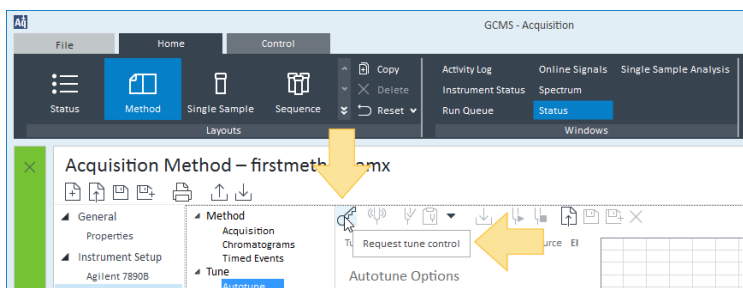

Figure 18. Autotune selection
- a Select **Tune > Autotune**, then click **Request tune control** . The Tune File associated with the currently loaded Method is loaded and the name and type are displayed. (See **Figure 18**.)